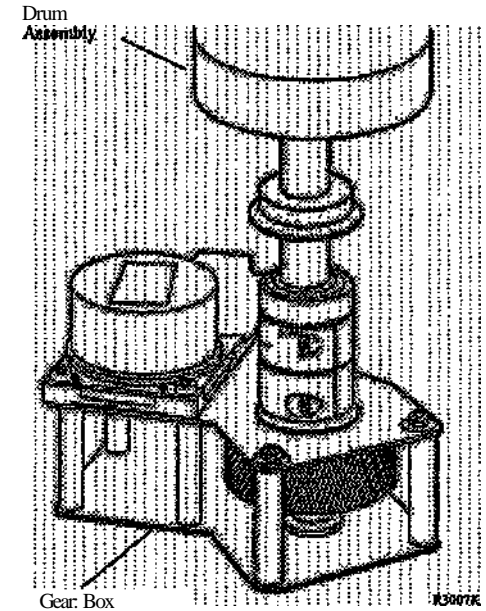

Figure 6. Removing the Drum Assembly
11. (Figure 6): Carefully remove the Drum Assembly from the Printer and place it, Gear Box down, in a safe place on the floor.